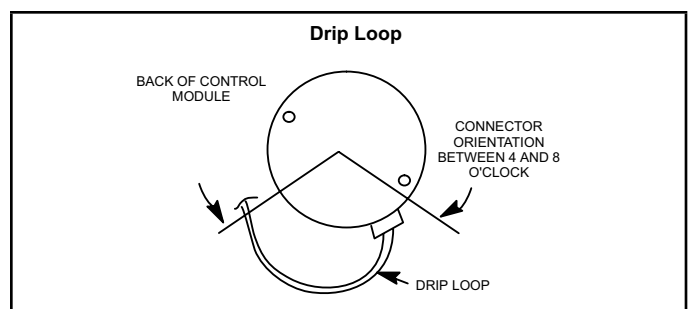

FIGURE 22
- 5 - The electrical connectors of the motor should be facing down to form a drip loop (FIGURE 22). This will direct moisture away from the motor and its electric connections on the motor.